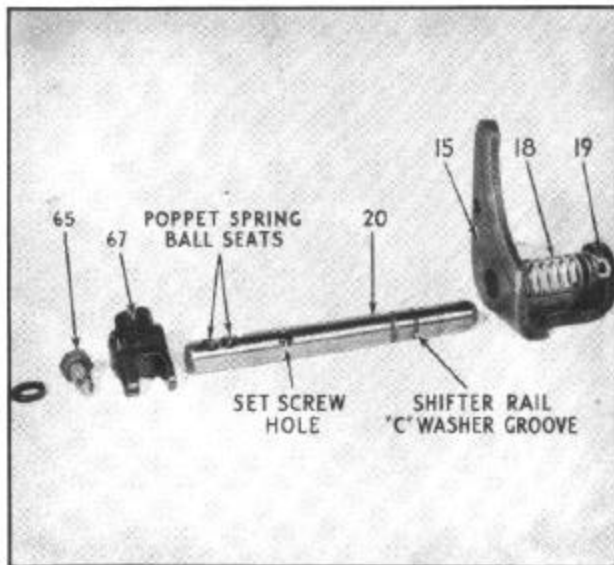

Figure 31--Reassembling Overdrive Case Assembly
13. Remove shifter rail ITC, washer (19), Figure 31, turn case upside down and shifter rail (20) will drop out of case. Remove shifter head (67), shifter rail fork (15) and retractor spring (18).
2. Assemble retractor spring (18), Figure 31, and shifter rail, "C" washer (19) in shifter rail fork (15) as shown, and place in position in case,